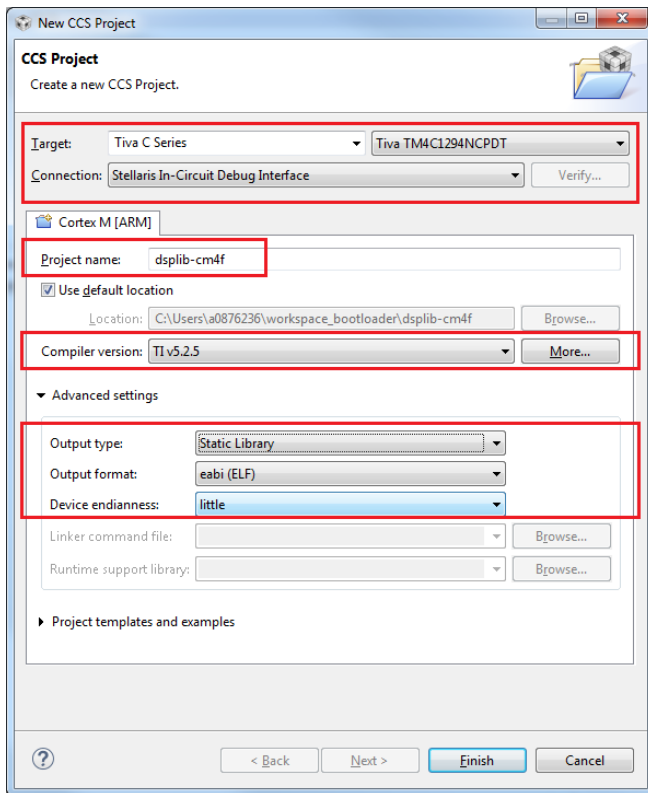

Figure 1. Creating the dsplib Project
3. Select `Target` as `TM4C Series` and then use the drop down menu to select `TM4C1294NCPDT`. Select the `Connection` as `Stellaris In-Circuit Debug Interface` (see Figure 1).